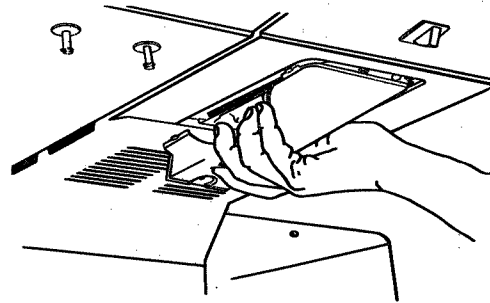

Figure 40
- d. Unscrew screw at back center of light cover and pull light cover straight down. (There are small supports one each side to hold cover in place that need to release.) See Figure 40.